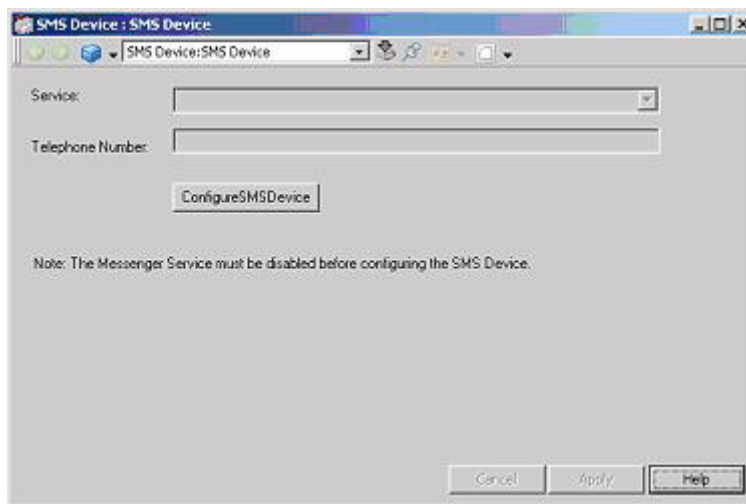
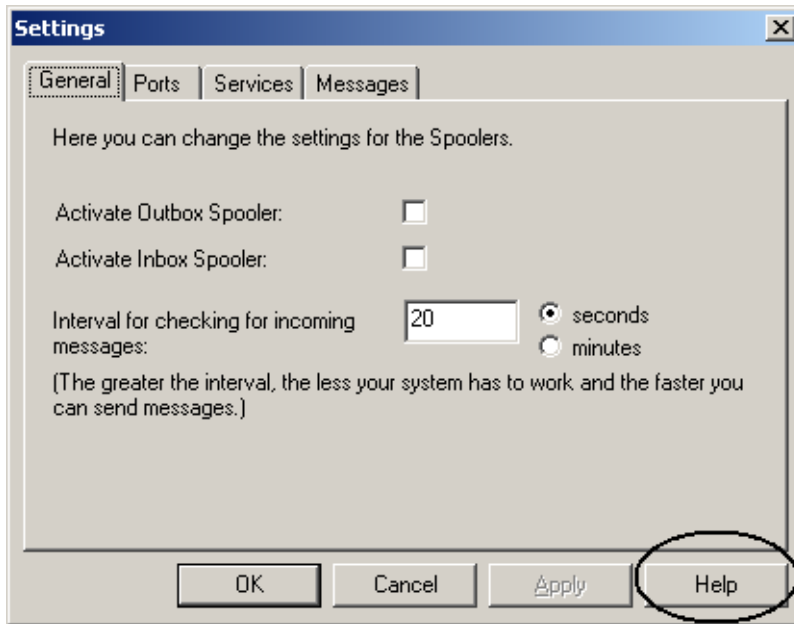

Figure 79. ConfigureSMSDevice
Figure 86. Settings Dialog - General Tab
16. Select the **General** tab to produce the view shown in Figure 86.
The **Help** button shown in Figure 86 will not be accessible. However, the same help contents are available when the **Help** button is clicked on the SMS Device aspect in the Aspect System structure > Messenger Aspect System (refer to Figure 79).